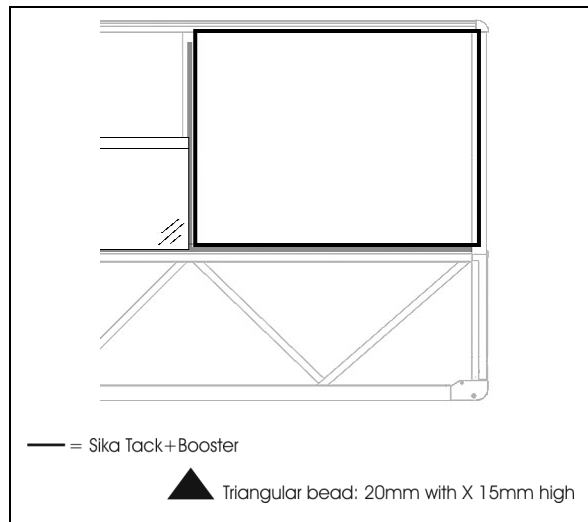
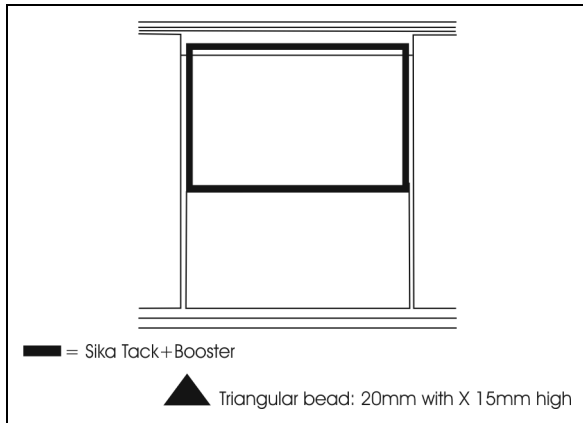
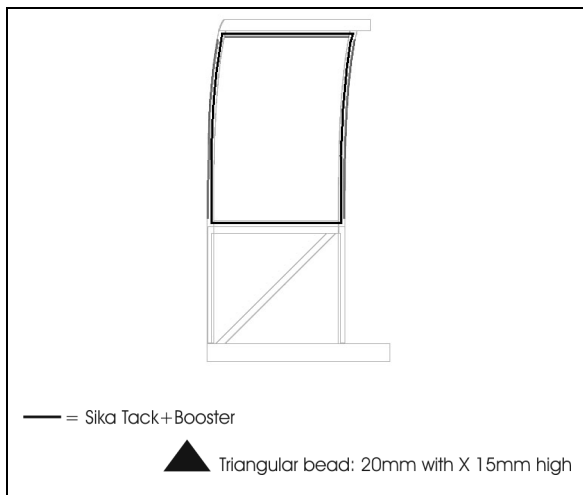

FIGURE 56 : FACE FIXED WINDOW INSTALLATION – SIKA TACK+BOOSTER
FIGURE 57 : FACE FIXED HALF-WINDOW INSTALLATION – SIKA TACK+BOOSTER
FIGURE 58 : SIDE FIXED WINDOW – SIKA TACK + BOOSTER
6. Apply Sika Tack+Booster as per FIGURE 56 FIGURE 57 or FIGURE 58 (triangular bead: 20mm width X 15mm high).